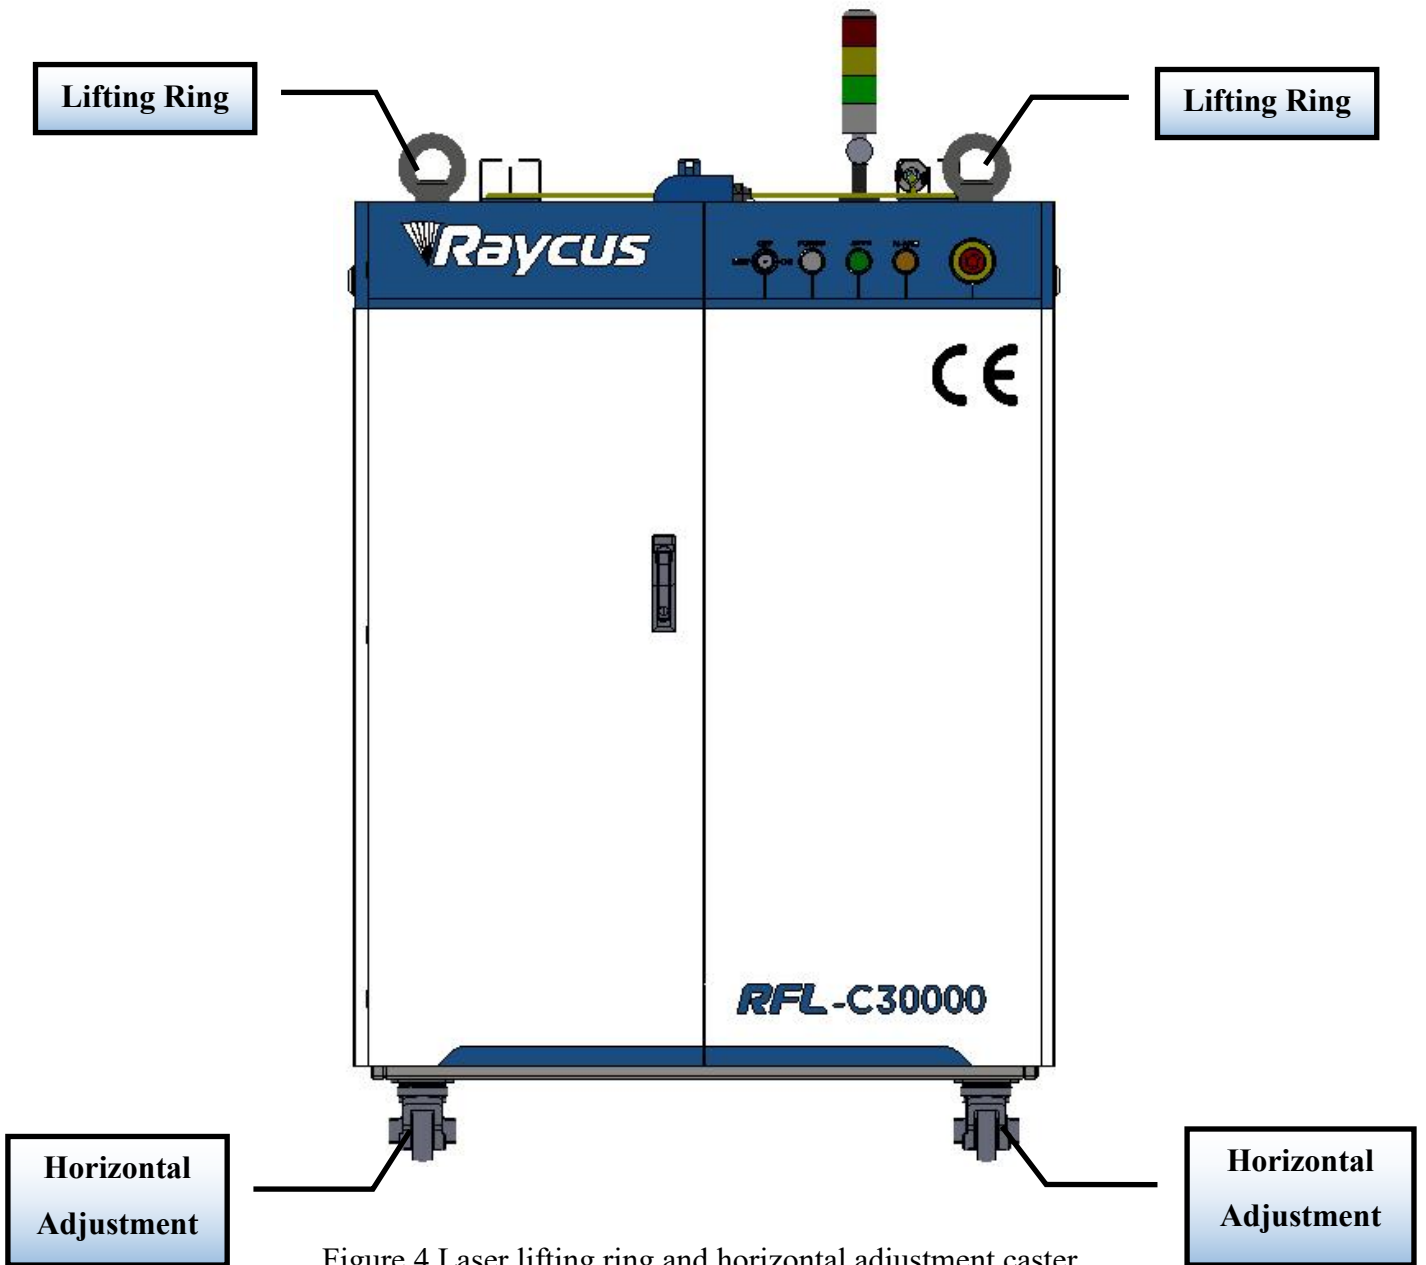

Figure 4 Laser lifting ring and horizontal adjustment caster
- i) Customers can use the four lifting rings at the top of the product or the four casters at the bottom to lift or move the product. Before lifting the laser source, make sure that the four lifting rings are installed firmly and reliably. When lifting the laser source, be sure to use the four lifting rings; when pushing the laser source, please make sure that the support block at the bottom of the horizontal adjustment caster is off the ground. After the laser source is positioned, adjust the support block to make it contact the ground to avoid displacement of the laser source. As shown in Figure 4.